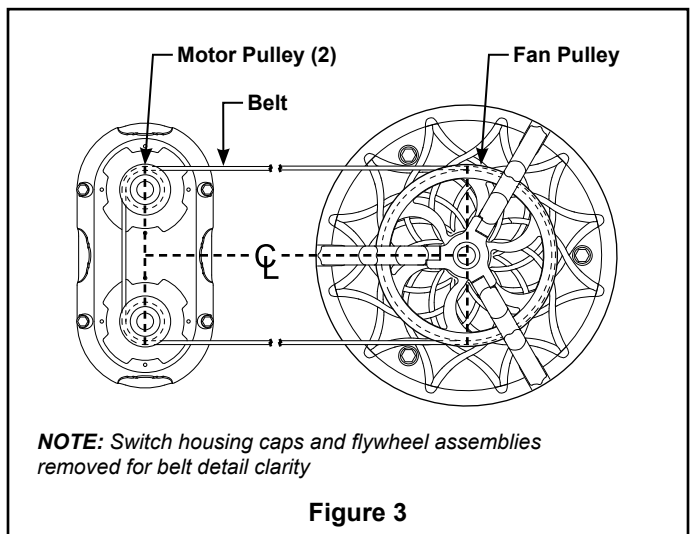

Figure 3
NOTE: Motor assembly **must** be perpendicular to the direction of belting running from the motor to the first fan. Drive belt **must** wrap around both motor pulleys. Be sure to position the fan pulley so that the belt won't rub against the support legs. (Figure 3) Be sure of your belt-layout plans before installing both the motor and fan assemblies.
Please NOTE the importance of orienting the fan/pulley unit to the motor and the adjacent fan/pulley unit. (Figure 3)
3. Using the rivets, rivet washers, and the rivet tool provided, install two rivets. The flat head of the rivet must be on the inside of the belt (the side touching the pulley), while the rivet washer is placed on the outside of the belt. (Figures 3, 4, & 5)